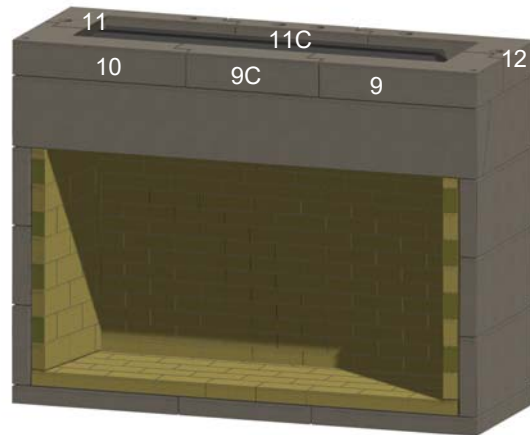

Figure 14. Lower Throat Level
G. After fire brick installation is complete, install the front lintel (8).
I. Install the first complete ring of four interlocking throat components (items 9, 9C, 10, 11, 11C and 12). Check with a level. See Figure 14.